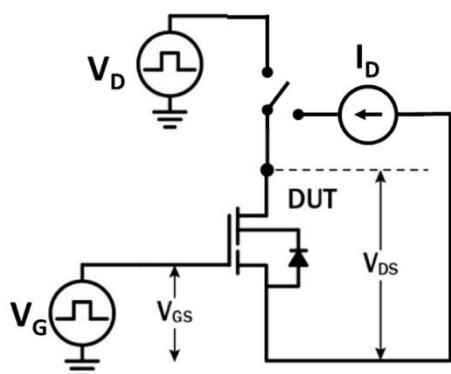

Figure 20. Dynamic $R_{DS(on)eff}$ Test Circuit
f. Dynamic on-resistance; see Figures 20 and 21 for test circuit and conditions